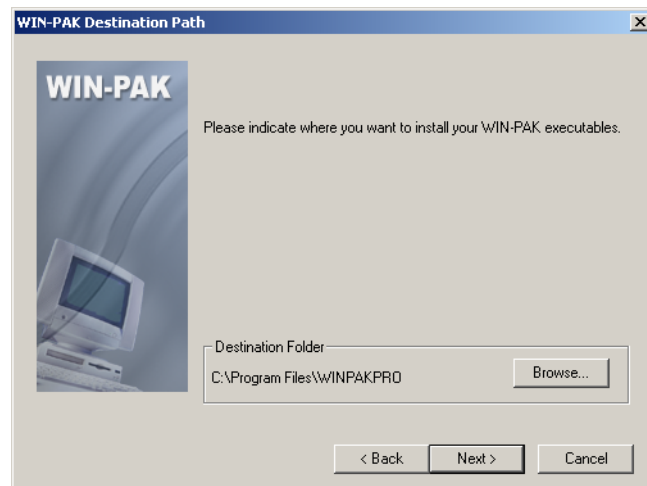

Figure 2-22 Select Destination Path
1. On the **WIN-PAK Setup Type** dialog box, select **User Interface and Comm Server** and click **Next**. The system checks for SQL Service status and displays *Figure 2-22*.